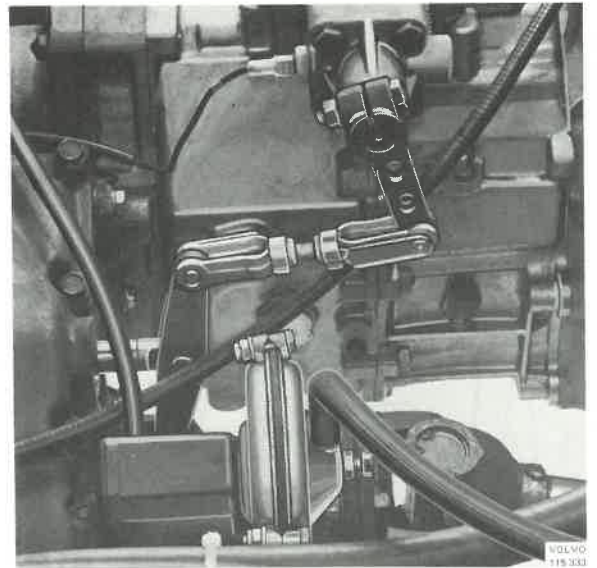

Fig. 43-24. Control mechanism
3. Disconnect the hose to the control cylinder, see Fig. 43-24. Remove the evacuation hose to the control mechanism housing.